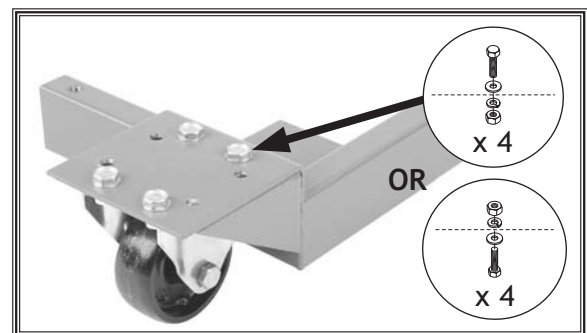

Figure 6. Options for mounting fixed casters to eight hole pattern corner brackets.
2. Mount each fixed caster to a corner bracket with the eight hole pattern using (4) M8-1.25 x 16 hex bolts, 8mm flat washers, 8mm lock washers and M8-1.25 hex nuts, as shown in **Figure 6**.